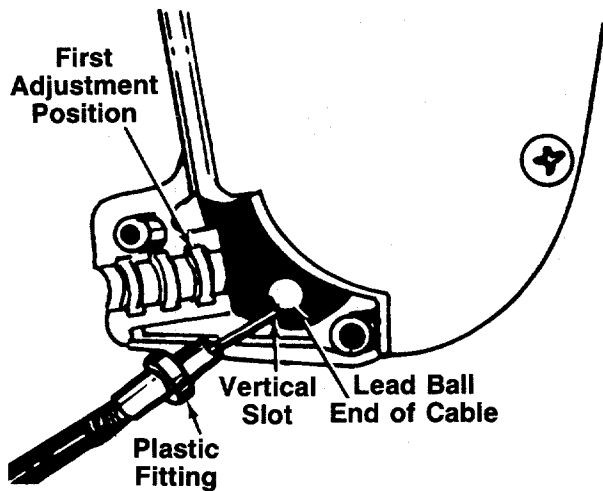

FIGURE 9.
1. Place the lead ball end of the cable into the fitting provided in the end of the clutch control lever. Slip the braided wire into the vertical slot as shown in figure 9. ←
3. Place the plastic fitting on the control cable into the first adjustment position in the clutch control housing. See figure 9.
When starting the unit for the first time, face the mower against a solid object such as a wall, fence, etc. Start the unit, and if it shows any signs of motion with the drive clutch control disengaged, shut the engine off immediately. Check the position of the drive clutch control cable. The plastic fitting must be assembled in the first adjustment position inside the housing, all the way to the right, as shown in figure 9.